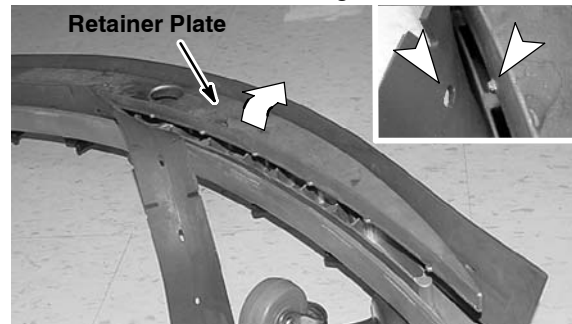

FIG. 62
4. To replace the front blade, remove the rear band and fully loosen the four squeegee assembly knobs, do not remove the knobs. Lift and tilt the retainer plate to access the front blade (Figure 62). Rotate the front blade to a new wiping edge and return the retainer plate. Make sure the retainer plate tabs engage the blade slots. Reinstall the band then retighten the knobs.